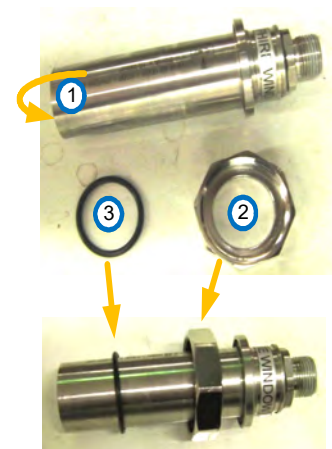

Figure 10-29: Sensor, nut and washer
- Step 4.** Check the sensor's lens (**1** in Figure 10-29) for condensation. If present, using a dry lens cloth, dry the lens thoroughly.
- Step 13.** Unpack the new sensor (Figure 10-29) and the sensor pinhole (**D** in Figure 10-26, if supplied).